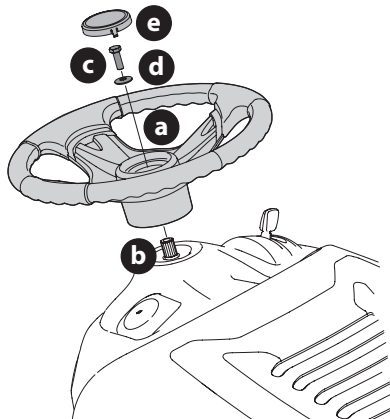

Figure 6
2. With the front wheels of the tractor pointing straight forward, align the steering wheel (a) and place it onto the steering shaft (b) (Figure 6).
3. Secure the steering wheel (a) with the hex bolt (c) and washer (d) from under the steering wheel cap (e) and torque to 18-22 ft-lbs (24-30 N-m) (Figure 6).
4. Place the steering wheel cap (e) over the center of the steering wheel (a) and push downward until it "clicks" into place (Figure 6).
NOTE: The hex bolt (c) securing the steering wheel (a) has thread locker applied to it, so if it is removed, it is recommended that the hex bolt (c) be replaced or thread lock re-applied (Figure 6).